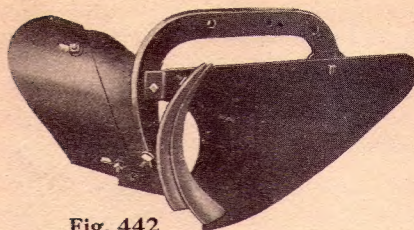

Fig. 442
- No. 400LW — (No. 400L with wide plow, Fig. 442, page 8).....